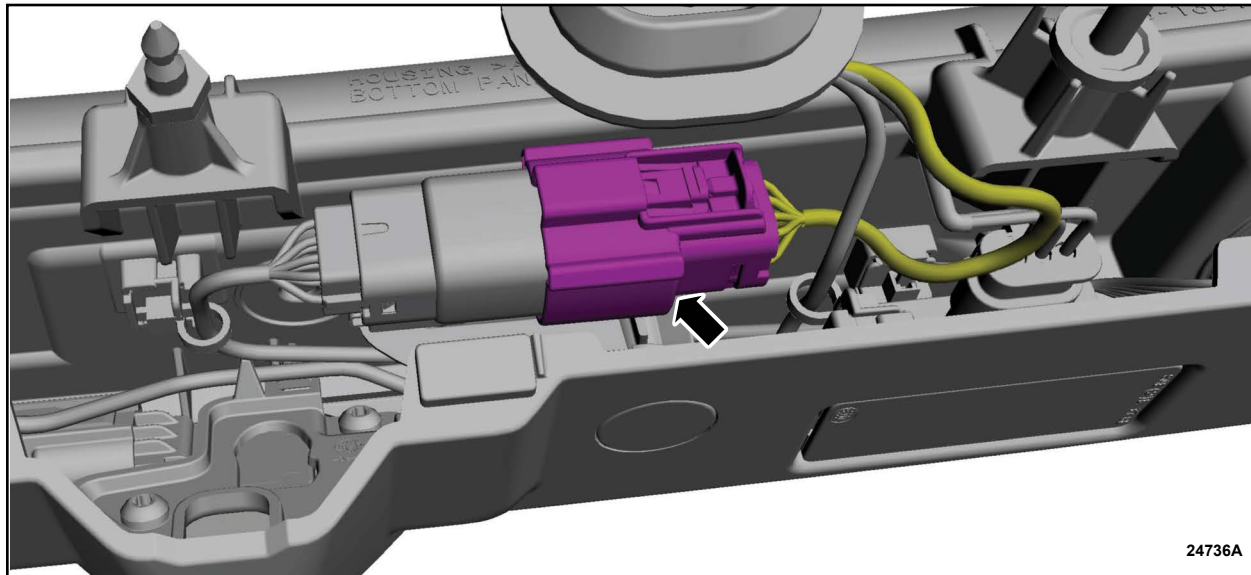

FIGURE 1
2. Disconnect the electrical connector and position the wiring harness aside. See Figure 1.